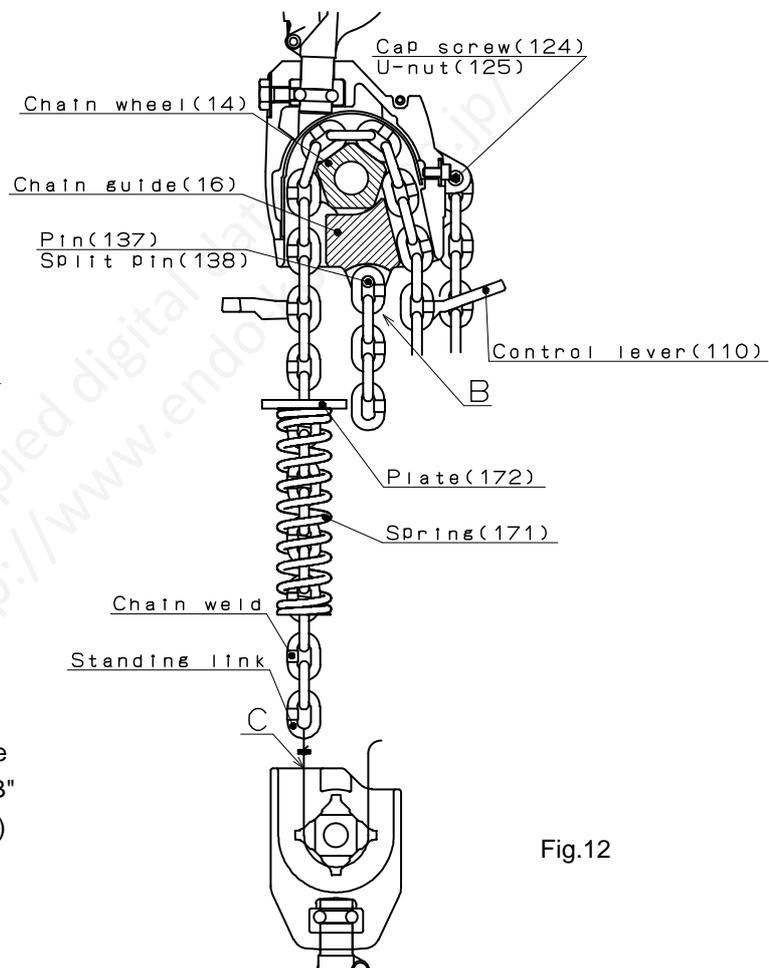

Fig.12
- 5) ①insert chain on the loading side through in order of plate (172), spring (171) (See Fig. 12).
- ②Make certain Load chain is straight, then feed Load chain through Hook case(152) , (164) by pulling the steel wire.